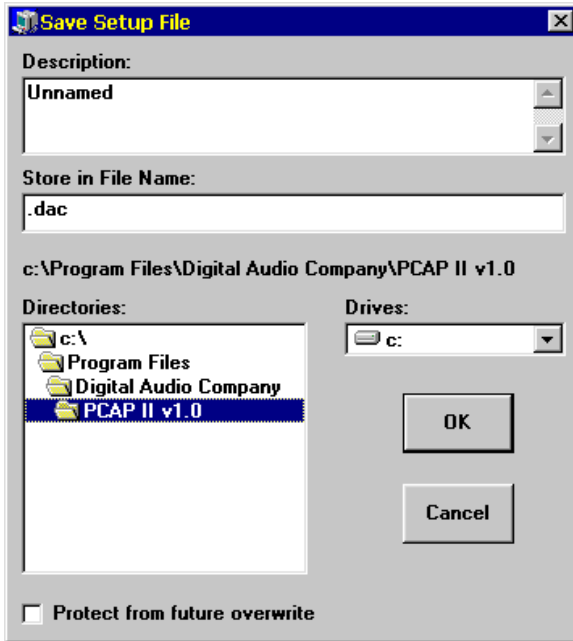

Figure 3-18 Tutorial Save Setup File Window
57. Click on **Save Setup File** to bring up the Save Setup File window as shown in Figure 3-18.